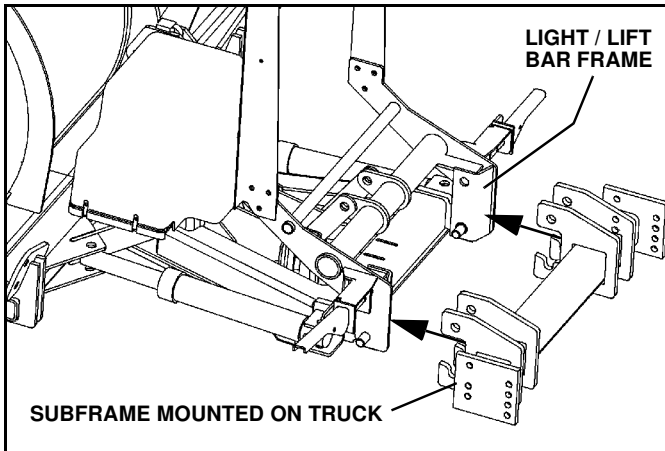

Figure 1-25
1. Drive truck into plow. Align light/lift bar frame inside of subframe lugs. Pins should fit inside slots cut into subframe lugs. (See Figure 1-25)